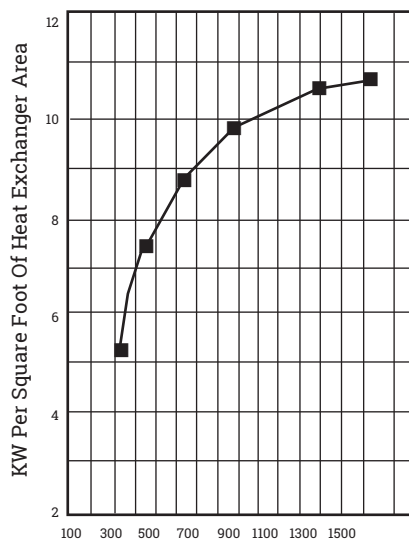
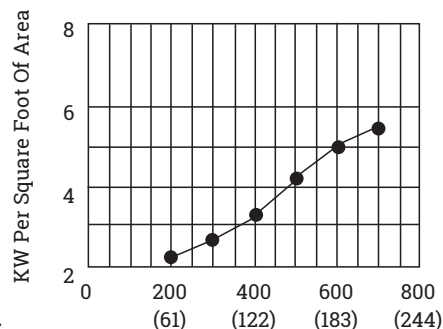

Figure 72.
Figure 73.
**Minimum air velocity** for safe operation is determined by dividing the heater KW by the cross-sectional duct area:  $KW / Sq. Ft. = KW / (W \times H / 144)$  where W and H are duct width and height in inches. For ULTRA-SAFE™ duct heaters, use the minimum W x H dimensions shown in the Heater Listing on page 48. Read the minimum velocity from the horizontal axis of Figure 72 for ULTRA-SAFE™ Duct Heater or Figure 73 for Series EP2 heaters.